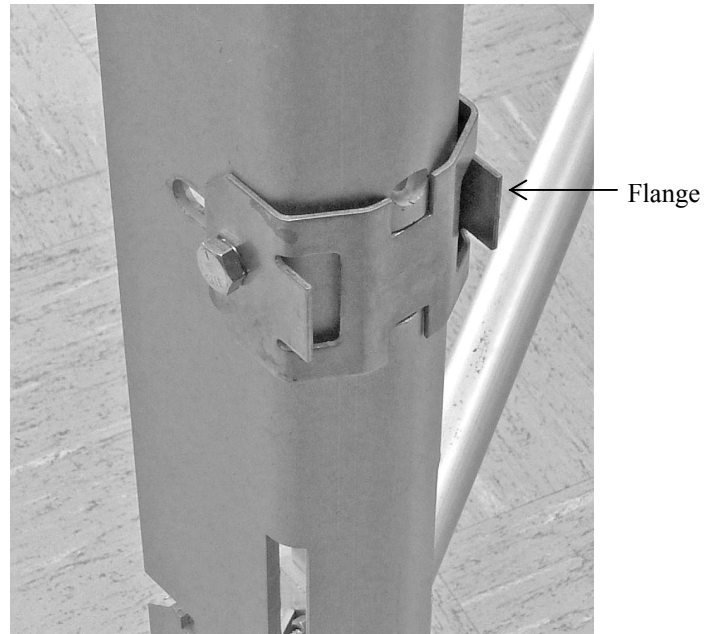

FIGURE 4-7. The 19124 bracket attached to a CM110 tripod.
An enclosure ordered with this option will be shipped with a bracket attached to each side of the enclosure and a u-bolt bracket. A 19124 bracket must also be attached to some tripods (see Figure 4-7).
NOTE For tripods requiring 19124 bracket, the bracket may not be pre-installed on the tripod at the factory. In this situation, the 19124 bracket and mounting hardware will be shipped with the tripod and will need to be installed as shown in Figure 4-7.
2. Place the flange of the tripod's bracket into a notch in one of the enclosure's brackets (see Figures 4-7, 4-8, and 4-10).